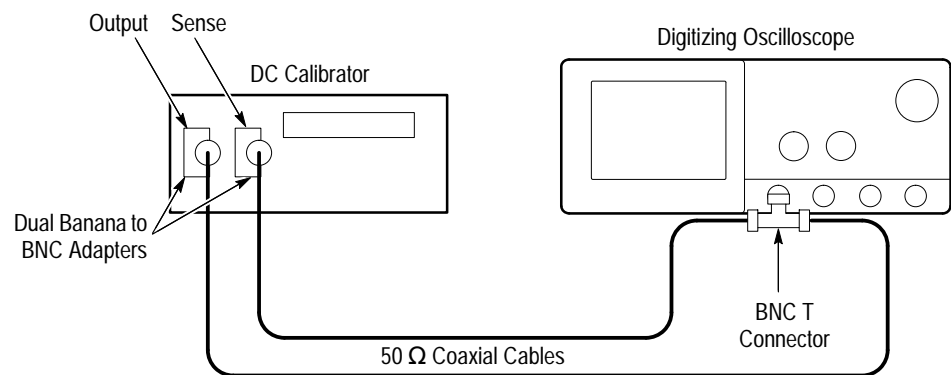

Figure 1–5: Initial Test Hookup
- Connect the output of a DC calibration generator through a dual-banana connector followed by a 50 Ω precision coaxial cable to one side of a BNC T connector. See Figure 1–5.
- Connect the Sense output of the generator through a second dual-banana connector followed by a 50 Ω precision coaxial cable to the other side of the BNC T connector. Now connect the BNC T connector to **CH 1**. See Figure 1–5.